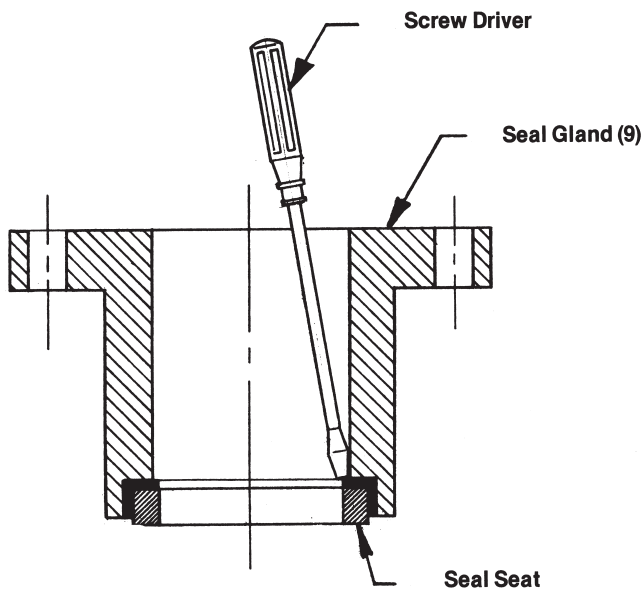

Fig. 9
On pumps with mechanical seals remove spring from seal cavity after sliding impeller (12) off of shaft (1). Slide shaft sleeve (20) off shaft and remove seal head, inspect sleeve for wear and replace if necessary. Seal seat is located in seal gland (9) if cracked, damaged or worn out, replace. To remove seat from gland insert a screw driver from flanged end of gland as shown in Fig. 9 and tap seal seat out. Clean stuffing box and seal gland (9) thoroughly before re-assembly. To install new seat, oil rubber cup with clean oil and push seat into gland by hand being sure seat is pressed all the way down against the shoulder in the gland. If seat is not square against the gland shoulder the seal will leak and there will be uneven wear on the faces. Install new seal gland gasket (29) and carefully slide seal gland (9) over shaft (1) so as not to hit seat on shaft. Mount stem plate (14) on stem (7) and securely tighten holding screws. Slide seal gland (9) into stem plate (14) and draw screws down tight. (Do not slide packing gland into stem plate (14) on packed pumps.)